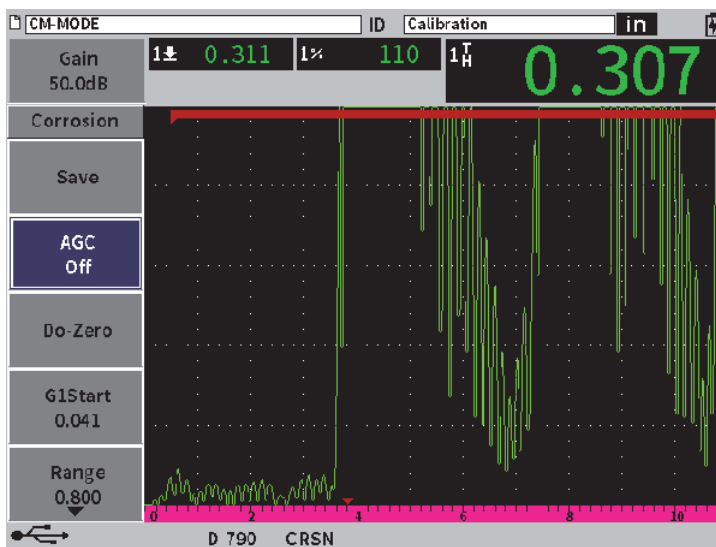

Figure 11-38 AGC Off in precision mode
2. Turn the adjustment knob to set **AGC** to **Off** (see Figure 11-38 on page 219).